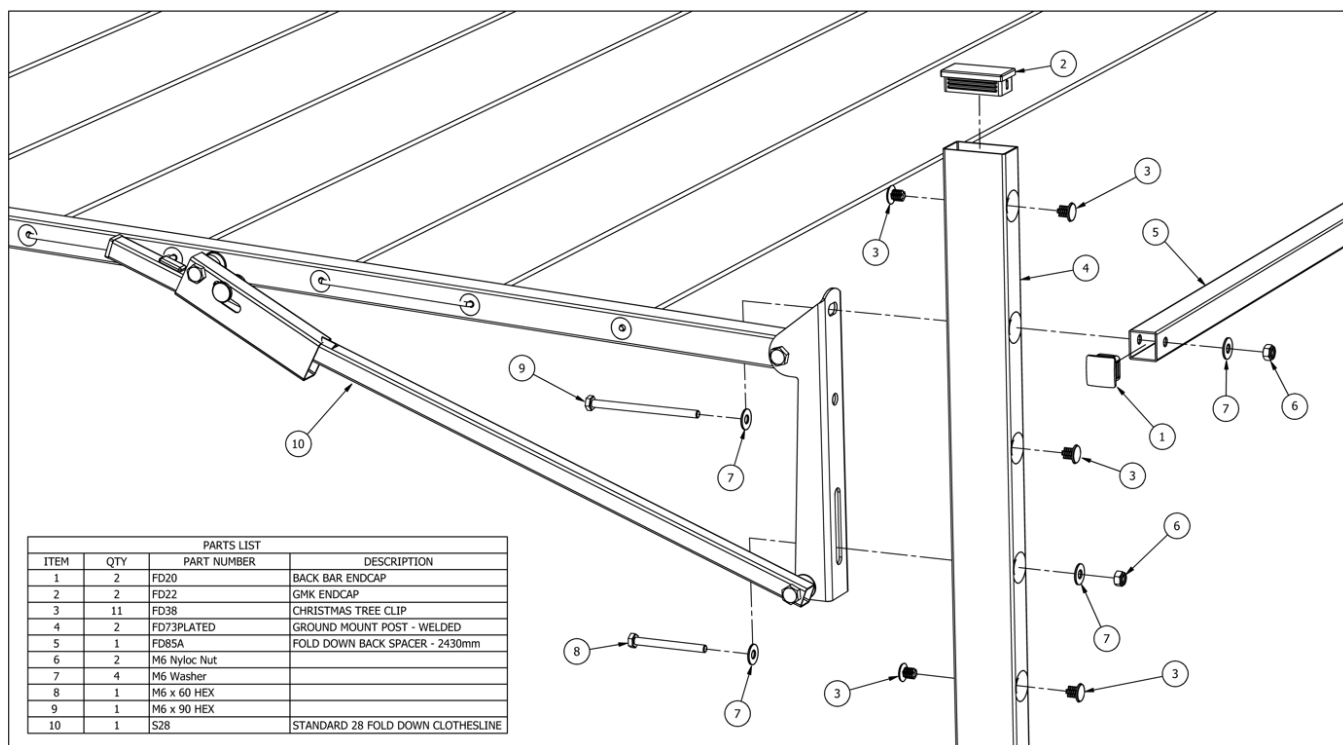

Fig 6. Installation to GMK.
3. GMK has multiple height settings. Pick the one that best suits the end user, (50mm above head height is recommended). See Figs 6 and 7 for recommended installation heights.
4. Install Clothesline to GMK as shown (Figs 6 and 7)